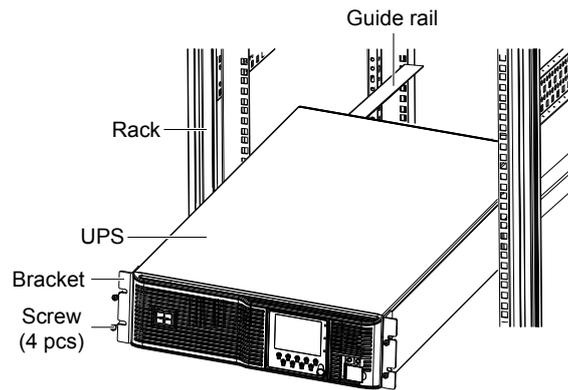

Figure 2-11 Installing the UPS
3. Place the UPS on the guide rails in the rack, and push it completely into the rack. Use four M6 × 16 screws to fix the UPS in the rack through the brackets, as shown in Figure 2-11.